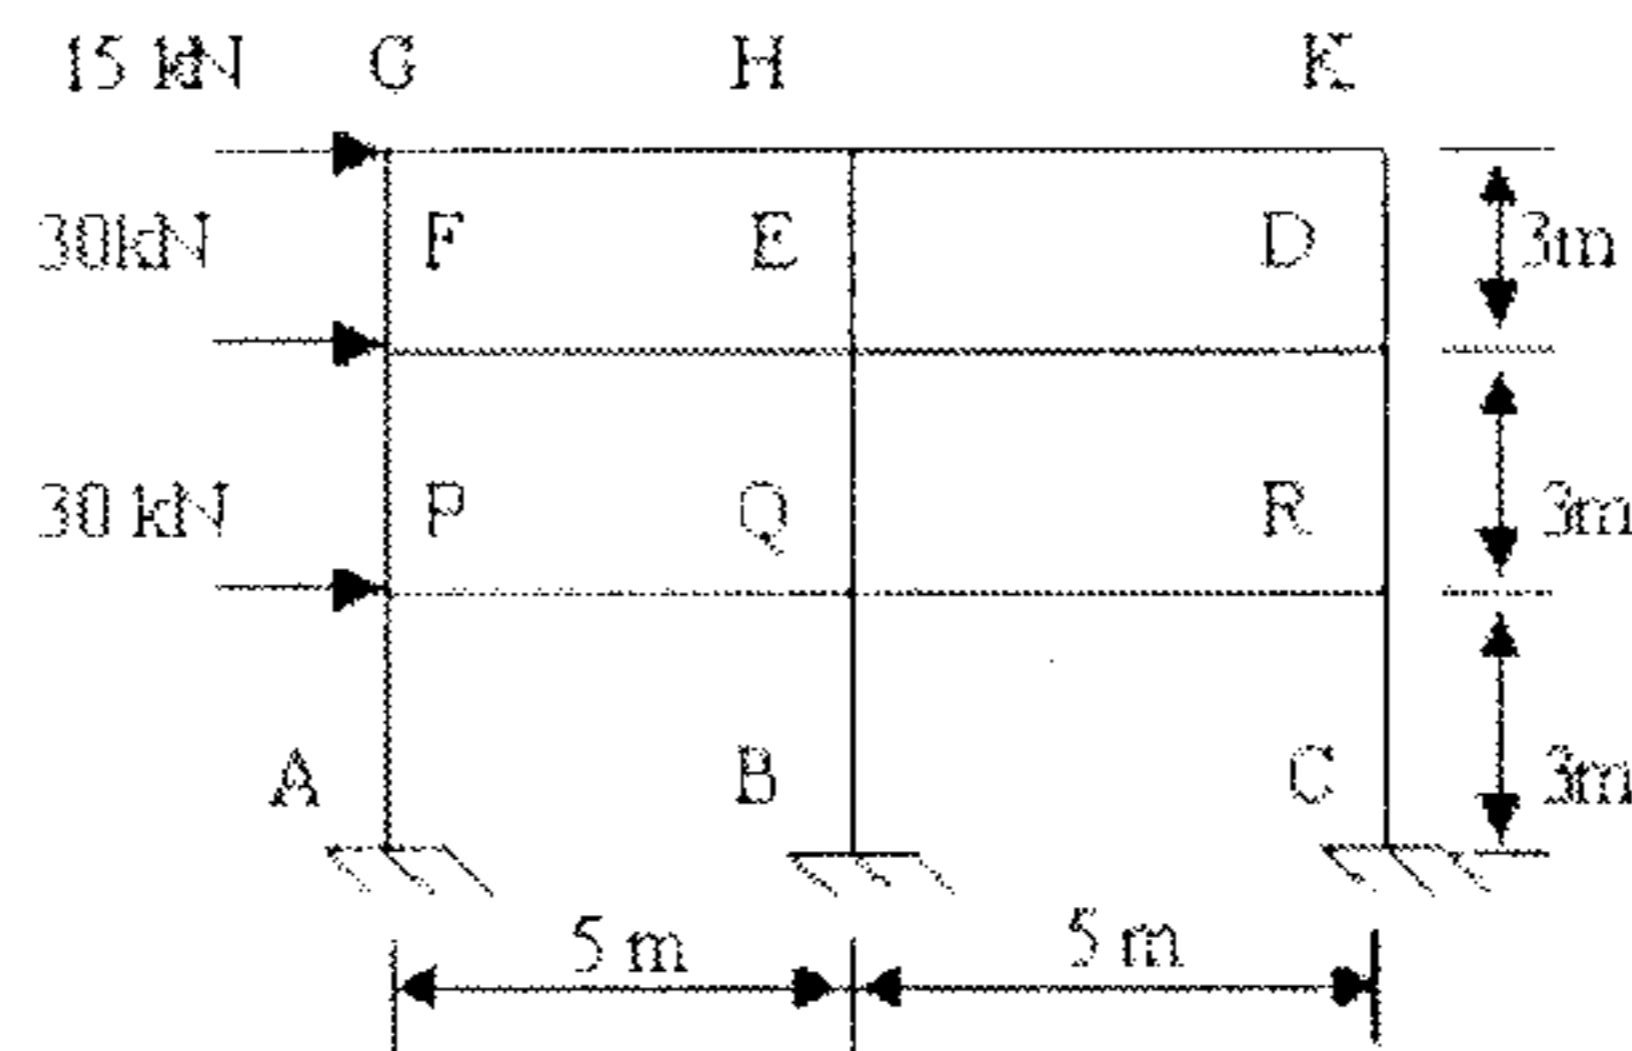

Fig: 1
- 3 Analyze the frame shown in Fig: 1, by Cantilever method. Assume that all the columns have equal area of cross-section for the purpose of analysis. 14 M